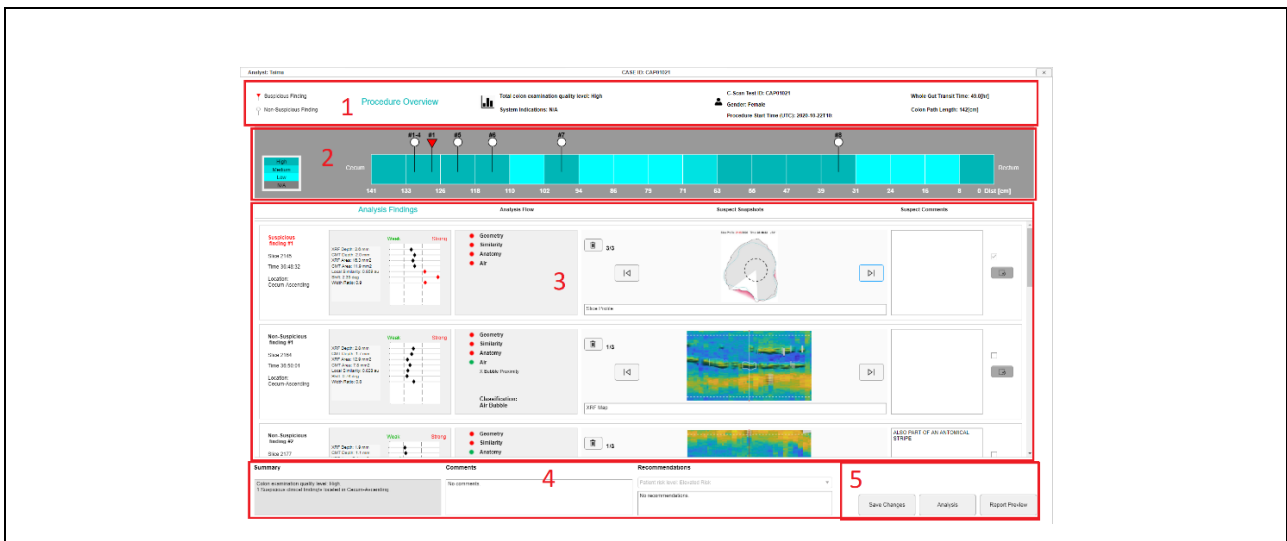

Figure 91: Pre-Analysis Summary Highlights
- Procedure general information (#1 in Figure 91)
- Procedure quality information (#2 in Figure 91)
- Suspicious and Non-suspicious findings table (#3 in Figure 91)
- Procedure summary, comments and recommendations (#4 in Figure 91)
- Action buttons (#5 in Figure 91)
**Procedure Overview** (#1 in Figure 91) includes:
**Procedure quality information** (#2 in Figure 91)
### Findings table (#3 in Figure 91)
All findings can be viewed with additional data directly in analysis window by clicking the **Analysis** button (see #5 in Figure 91) or the **jump to suspect analysis** button  to jump to a specific suspect in the analysis window. Return to pre-analysis summary by clicking the **Show summary** button. Going back to analysis window, changes can be made to pre-analysis; suspects can be added/removed.
**Procedure summary, comments and recommendations** (see #4 in Figure 91)
### Action buttons (#5 in Figure 91)